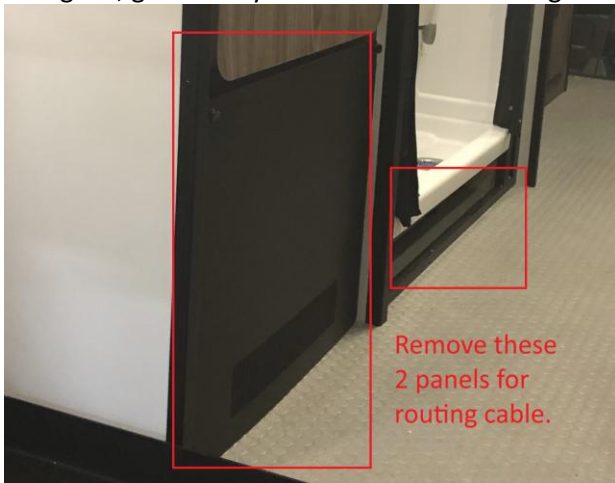

Figure 6
- Remove screws from the 2 access panels at the bottom of the shower. See Figure 6. NOTE: shower bottom is fiberglass, gloves may be needed while routing cable.